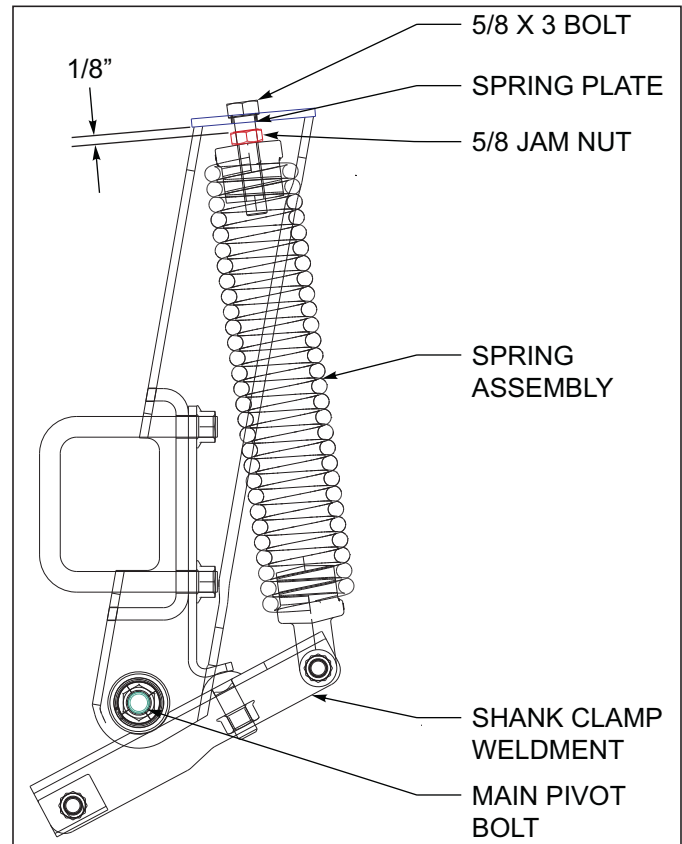
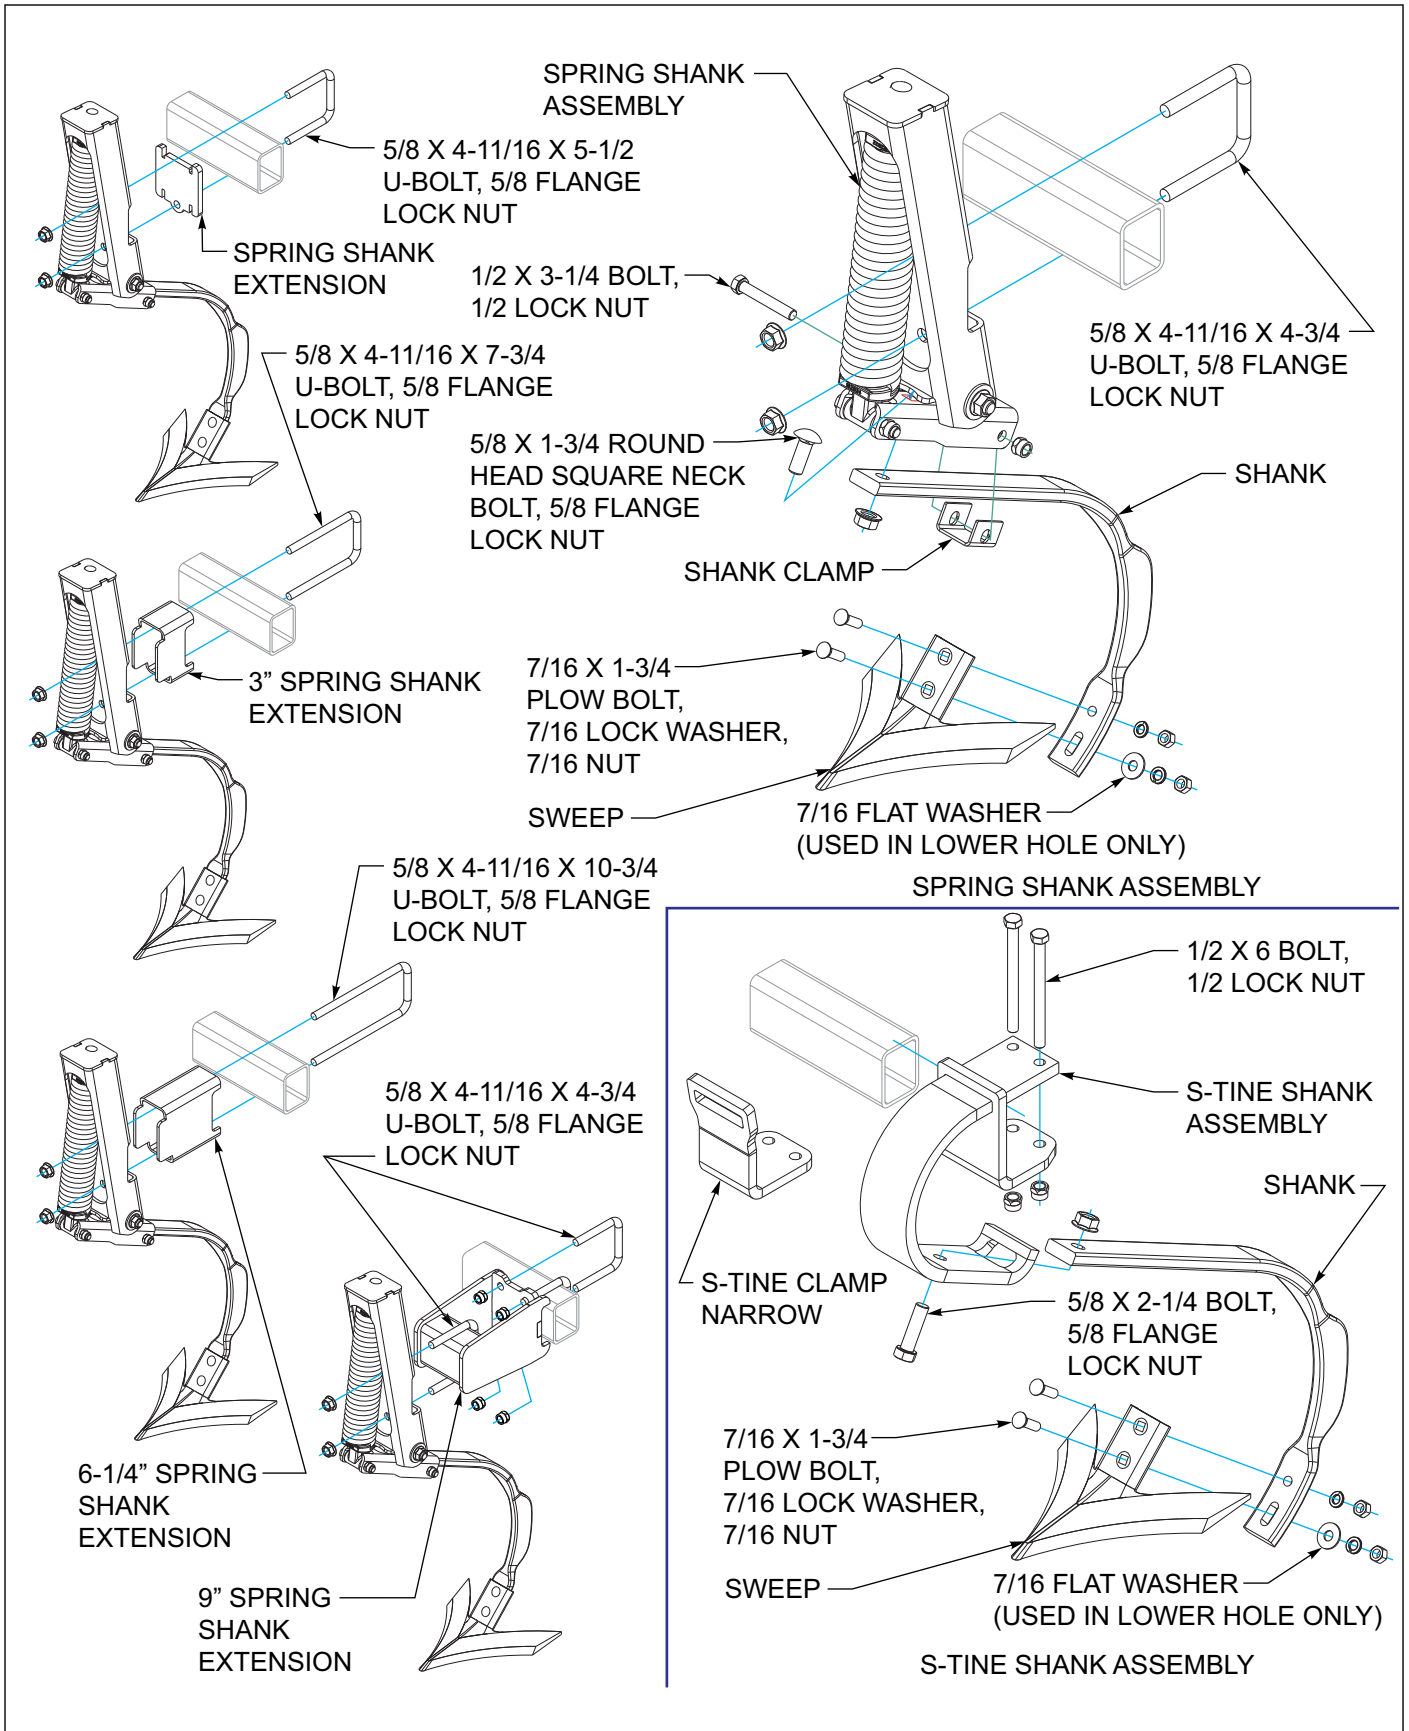

Figure 3-28: Spring Adjustment
Figure 3-29: Shank Installation
1. Install shanks in clamps See Figure 3-29.
S-tine clamp narrow used between two narrow spaced frame tubes, Models 9650FH-38'-42" only See Figure 3-29.
Spring shank assemblies with frame extensions (front bar) are mounted reversed for narrower shipment. These shanks must be removed and turned forward for proper operation. See Figure 2-6 through 2-11 for proper placement. and See Figure 3-29 for proper u-bolt and shank extension. After shanks have been reversed, verify that springs have been set to the proper tension. Adjust the spring until there is 1/8" gap between the top of the mount and locking jam nut on top of the spring See Figure 3-28 Lock the jam nut against the top of the spring, not the top of the mount.